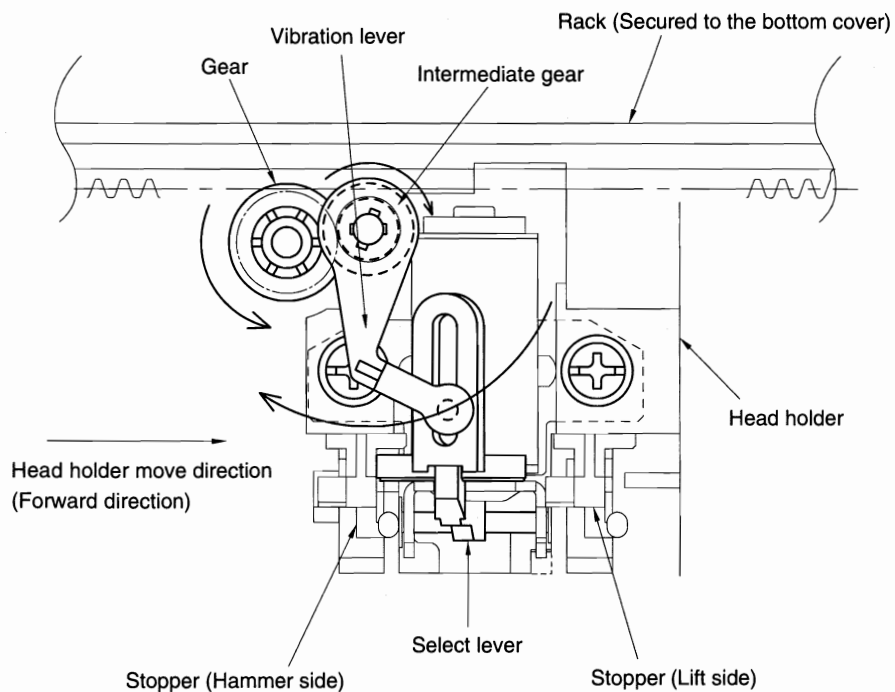
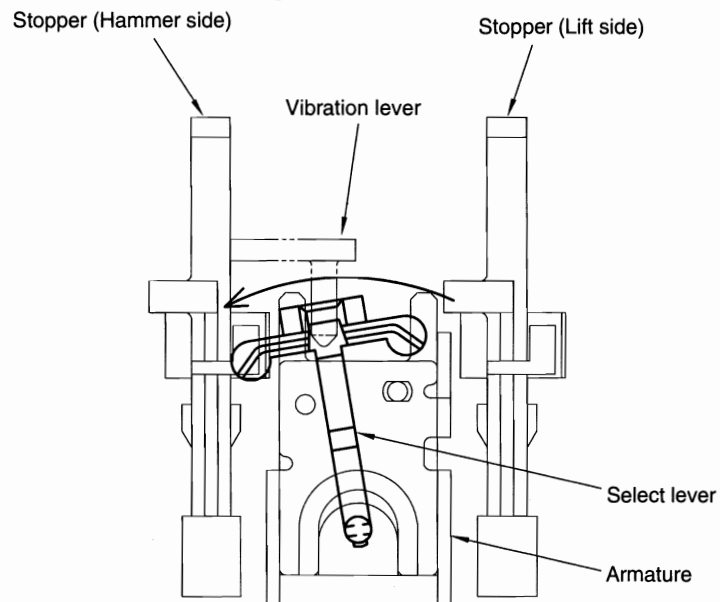

Fig. 1.9-1
Fig. 1.9-2
- (1) The head holder assembly moves to the right (forward direction).
- (2) The gear installed to the head holder is rotated by the engagement with the rack.
- (3) The vibration lever makes clockwise rotation due to the friction with the intermediate gear.(Fig. 1.9-1)
- (4) The select lever turns to the left (hammer side).
- (5) When the hammer solenoid is energized, the hammer side stopper operates and is released from the hammer clutch collar so that the hammer cam rotates.(Fig. 1.9-2)